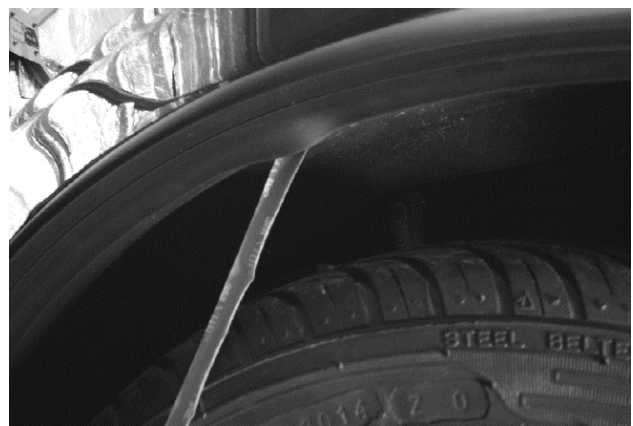

FIG 2
3.5 Once you are happy with the positioning of the entire extension, the lower bonding face release liner can now be peeled back allowing the extension lower edge to also adhere to the vehicle wheel arch (FIG 2).